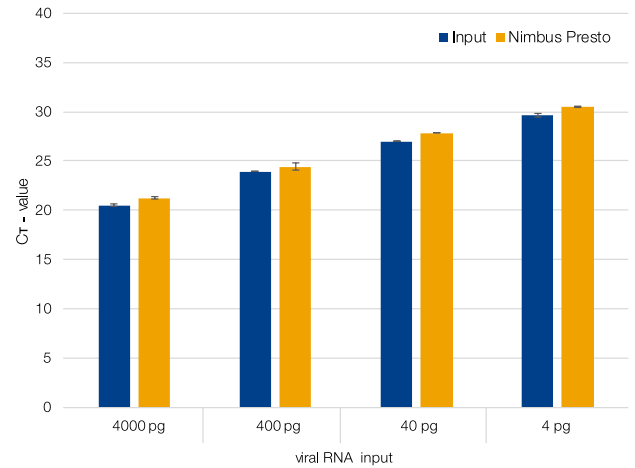

Figure 1: The Hamilton NIMBUS® Presto
**Figure 1: NIMBUS® Presto, Deck Layout.** (1) KingFisher™ Presto and Turntable, (2) 5X Deep Well Plates Stacks (storage), (3) 3X Tip Modules, (4) Sample Loading Area, (5) Carrier with Multitube Adapter Tube, (6) 2X Deep Well Plate Modules (working area), (7) 6X 60 ml Trough Modules, (8) 3X 200 ml Trough Modules, (9) CO-RE® Gripper, (10) Barcode Scanner. The system includes 4X CO-RE® 1 ml channels that are not visible in this figure.